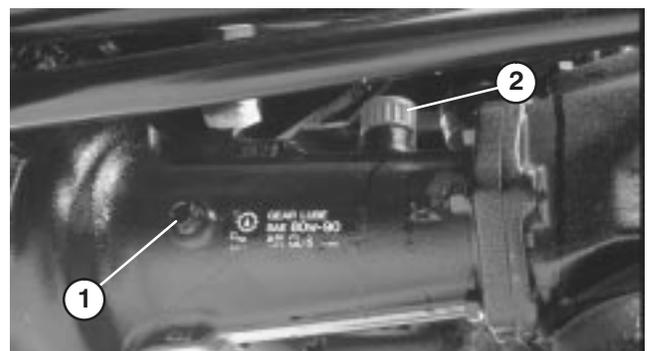

Figure 19
2. Remove check plugs from axle and make sure lubricant is up to bottom of each hole. If level is low, remove fill plugs and add enough lubricant to bring the level up to the bottom of the check plug holes (Fig. 19 & 20).